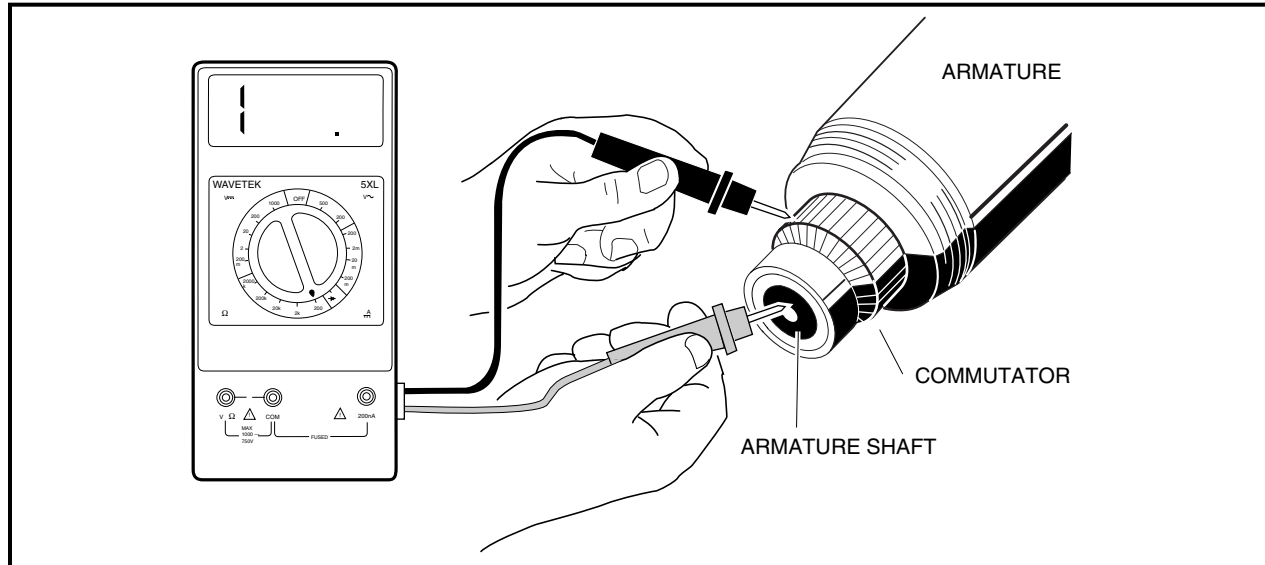

Figure 12-13 Armature Ground Test
1. Use a multimeter set on 200 Ω (ohms) and place the positive (+) probe on the commutator bars and the negative (-) probe on the armature core. The reading should be no continuity. If the reading is incorrect, replace the armature and the two bearings (**Figure 12-13, Page 12-8**).